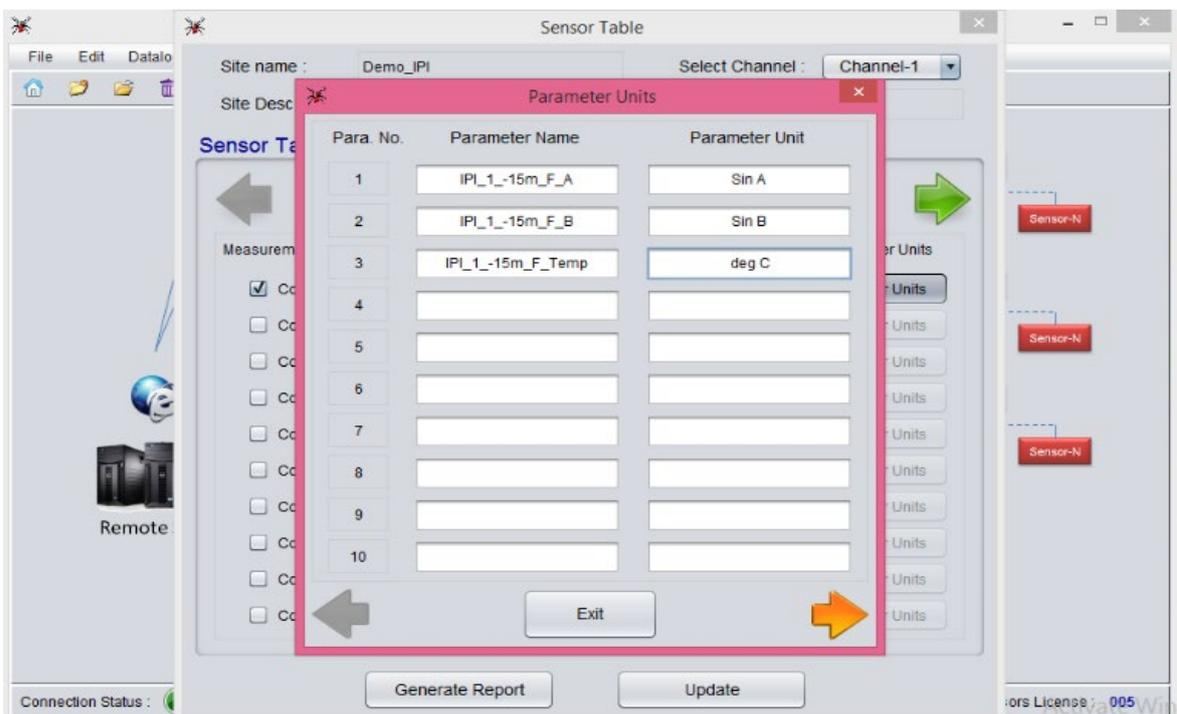

Figure 7-18 Paramaters unit window of EDSL-30UNI Configuration Manger Software
- "Parameter Units" window will appear as shown in figure 7-18 below. Enter the required "Parameter Name" & "Parameter Unit". Then click "Exit"